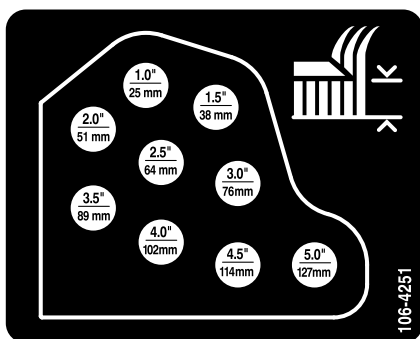

Figure 24
11. Mount the height-of-cut chains to the desired height-of-cut hole with the clevis pin and hairpin cotter (Figure 24).